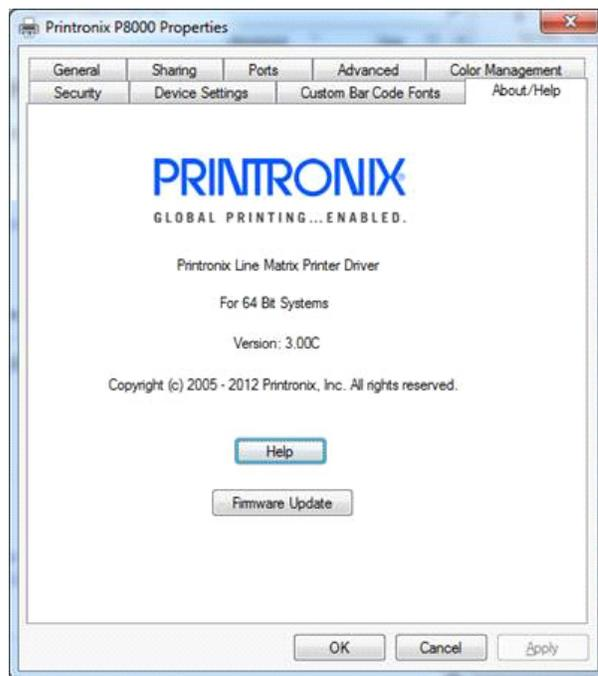

Figure 23. Updating Firmware
5. Click the **Firmware Update** button as in Figure 23.